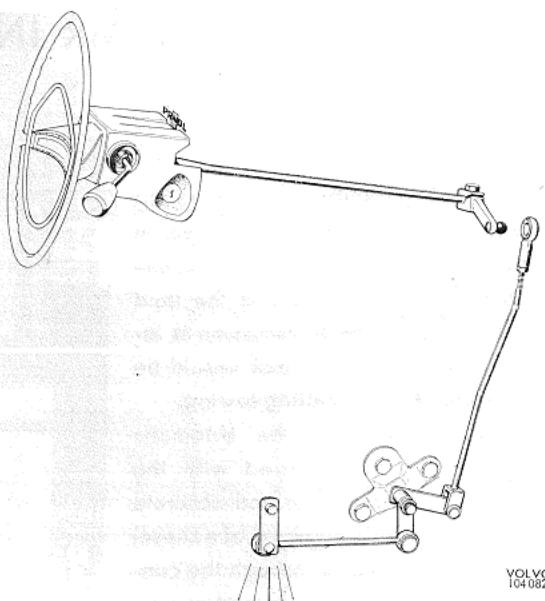

Fig. 28. Adjusting selector controls
1. Disconnect the pull rod from the lever on the selector shaft. Set the selector lever to "N", see Fig. 28.